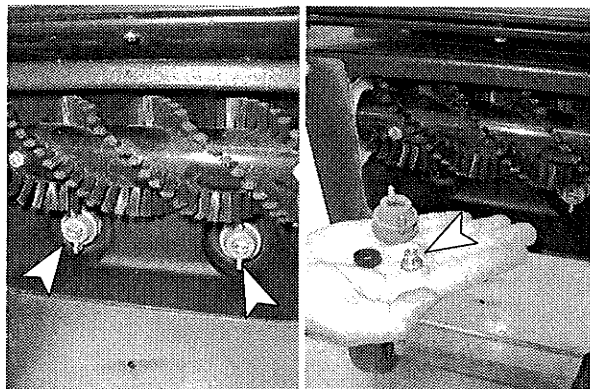

FIG. 19
2. Inspect spray pattern for plugging. If plugged, remove spray tips and soak them in a recommended liquid neutralizer for up to six hours. To remove spray tip, twist spray tip body counter-clockwise. Do not use pointed objects to unplug tips, damage will occur (Figure 19).